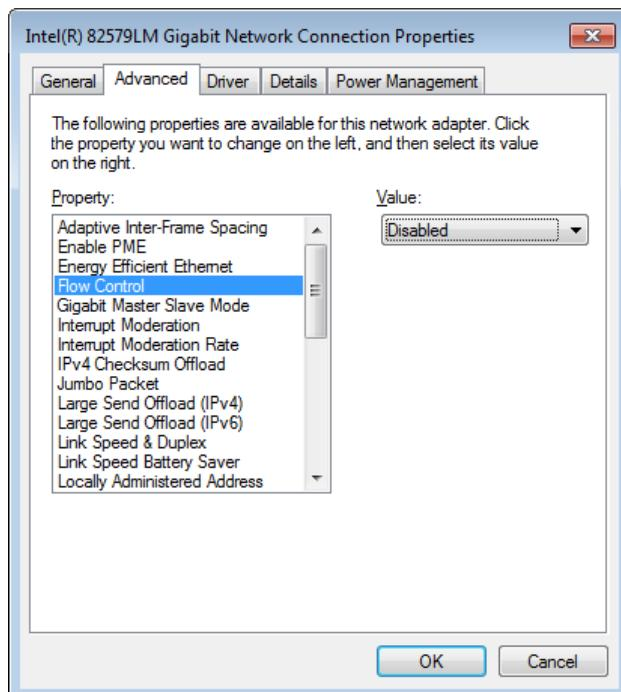

Figure 83: Network interface card - advanced driver settings - Flow Control
4. The settings of the driver can be accessed by choosing the *Advanced* tab of the opened window. As shown in Figure 83 , set the value of the *Interrupt Moderation Rate* property to *Disabled*.